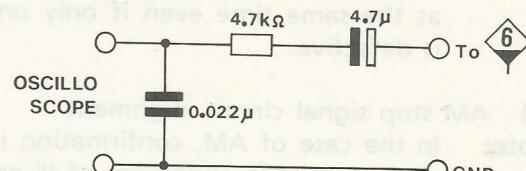

Fig. 8
- (d) Place C.R circuit in Fig. 8 to the vertical input of oscilloscope, and connect the input to TP6. At this moment, the input sensitivity of oscilloscope is lower than that in procedure (b), and the output level of sweep generator will lower further.